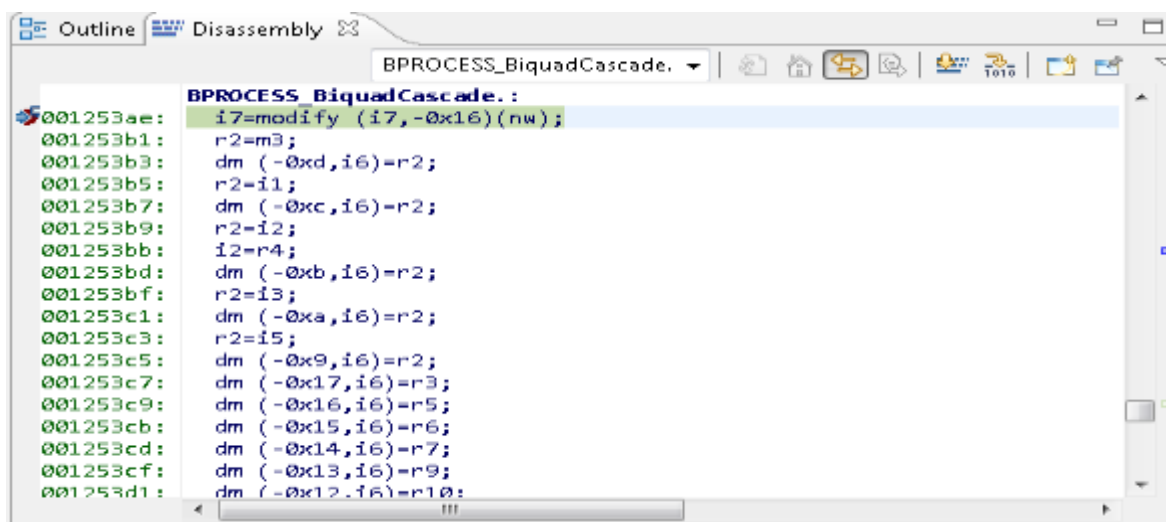

Figure 38: Breakpoint to Module Disassembly Function
28. The other way is, enter the required symbol name of module function (byte addressed symbol followed by a '.') which is to be debugged in the Disassembly window and set a breakpoint at the required instruction. For example, debugging Biquad Cascade module enter “**BPROCESS_BiquadCascade.**” symbol and set a breakpoint as shown in Figure 38. Run the core by clicking on “Resume”. The core halts at module function where the breakpoint is set.